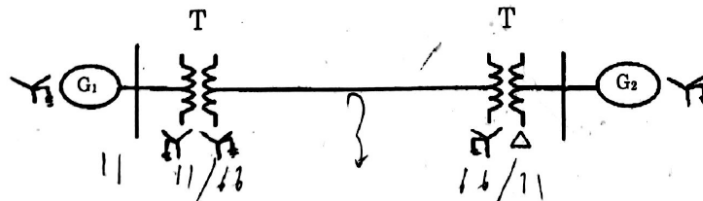

Fig. 3
13. (a) Generator G1 and G2 are identical and rated 11KV, 20MVA and have a transient reactance of 0.25 p.u at own MVA base. The transformers T1 and T2 are also identical and are rated 11/66KV, 5MVA and have a reactance of 0.06 p.u to their own MVA base. A 50km long transmission line is connected between the two generators. Calculate three phase fault current, when fault occurs at middle of the line as shown in fig. 3.